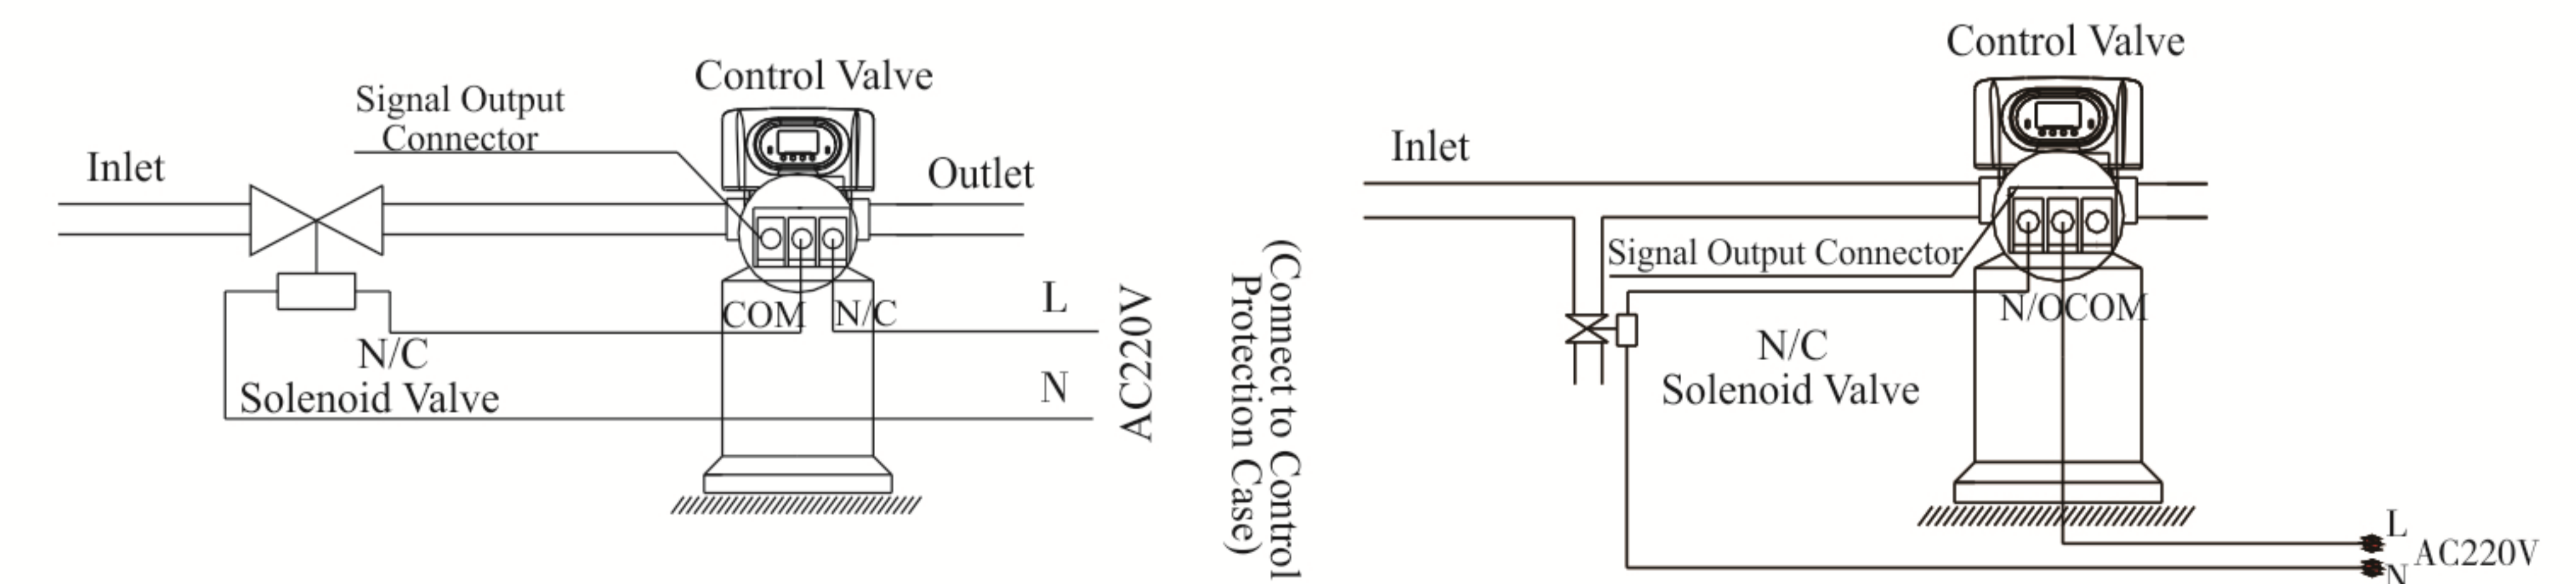

Figure 3-3 Wiring of Solenoid Valve on Inlet      Figure 3-4 Wiring of Pressure Relief Connector
② Solenoid Valve on Inlet (Set b-02)
**Instruction:** When inlet pressure exceeds 0.6MPa, install a solenoid valve on inlet. Set the control mode to b-02. Pressure is relieved when valve switching, the wiring refers to Figure 3-3. As Figure 3-4 shows, it also can use the pressure relief port to release pressure.